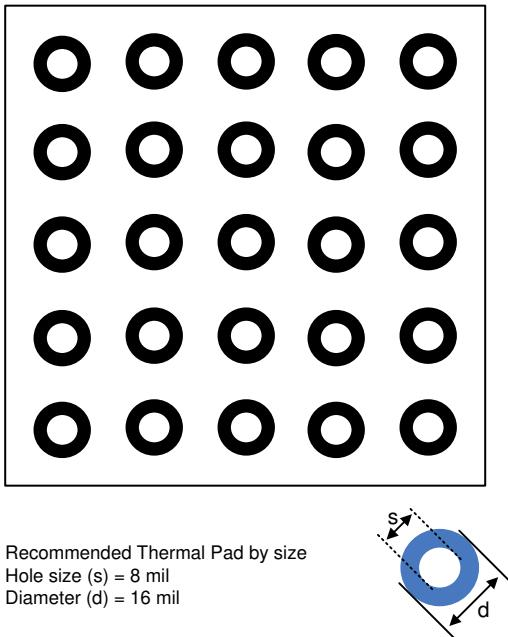

图 11-2. Thermal Pad Layout Recommendation
- The thermal pad should be tied to the PCB ground plane with a minimum of 25 vias. See 图 11-2 for an example.